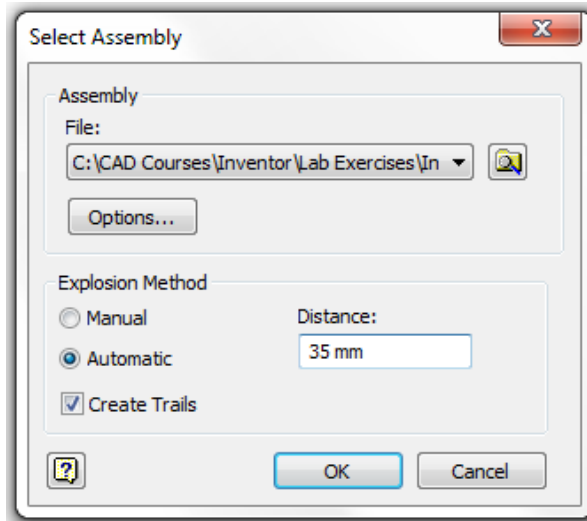

Figure Step 9A
Step 9 In the Select Assembly dialogue box enable Automatic and Create Trails in the Explosion Method area. Enter the Distance of 35 mm. Click OK. The exploded assembly should appear as shown in the figure. (Figure Step 9A and 9B)